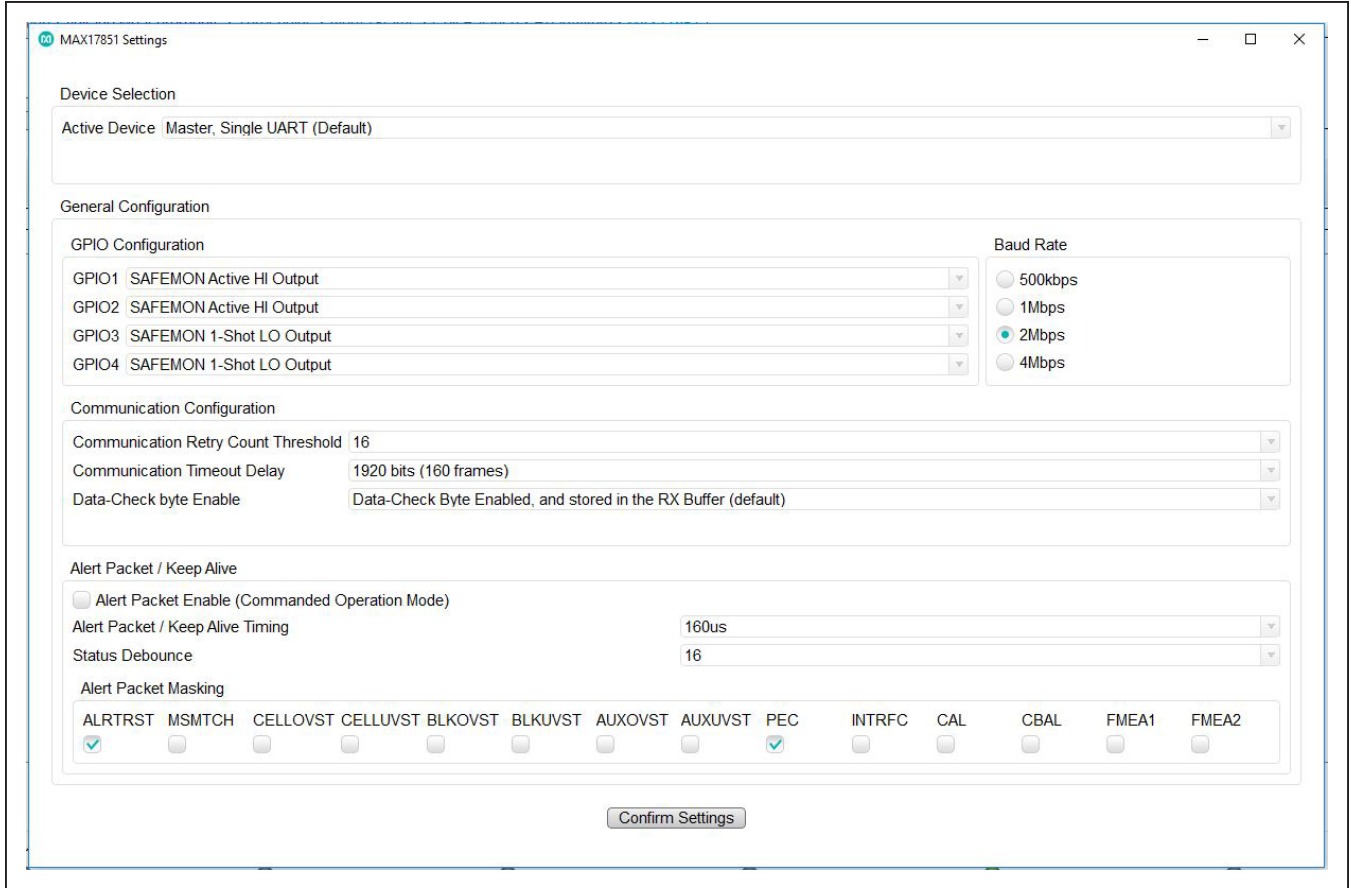

Figure 27. Settings panel
- 11) Open the **Settings** panel (Figure 27) by clicking the **Settings** button. Ensure that the **Active Device** drop-down menu displays **Master, Dual UART**. In the **GPIO Configuration** group box, set GPIOs 1 and 2 to **SAFEMON Active HI Output**. Set **GPIO3** to **SAFEMON Active HI Output** and **GPIO4** to **SAFEMON 1-Shot LO Output**. Click the **Confirm Settings** button at the bottom.
- 12) Open the **Settings** panel (Figure 27) by clicking the **Settings** button. Click on the **Active Device** drop-down menu and select **Slave, Dual UART**. In the **GPIO Configuration** group box, set GPIOs 1 and 2 to **SAFEMON Active HI Output**. Set **GPIO3** to **SAFEMON 1-Shot LO Output** and **GPIO4** to **SAFEMON Slave Input**. Click the **Confirm Settings** button at the bottom and close the panel.
In the **Commanded Operation** sub-tab, the **SWPOR** button on the upper-right side of the GUI, will completely reset the device, emulating a POR condition. The embedded UART communication Lock Step State Machine (LSSM) gets reset by pressing the **Clear LSSM** button. The **Settings** button opens an individual settings panel to manage the configuration of the MAX17851 (see Figure 27). In the **Settings** panel, the user can set control properties of the GPIO and communication features. In addition, the user may configure the MAX17851 Master and Slave separately by changing the **Active Device** in the **Device Selection** drop-down menu.